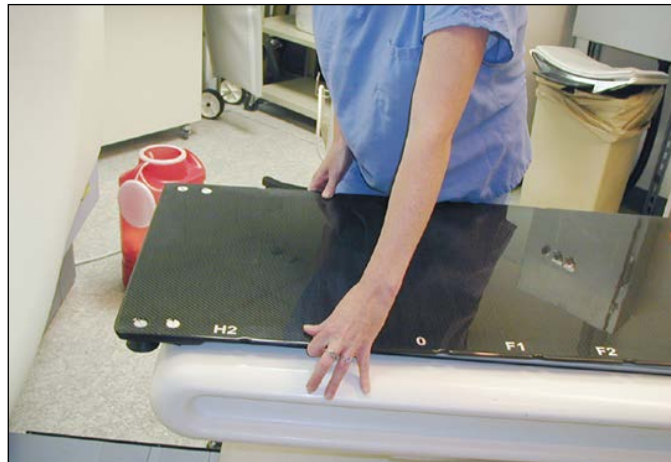

Fig. 20
4. Set the CT Overlay on Fujifilm CT cradle with the head of the CT Insert 3 in. forward of the final position and centered on the Fujifilm CT cradle (Fig. 20).